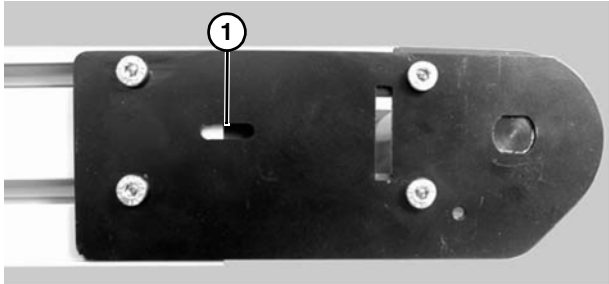

Figure 34
3. Extend head plate assembly until proper tension in the belt is achieved. If proper tensioning can not be obtained before the belt life indicator is all black (**Figure 34, item 1**) the belt must be replaced.